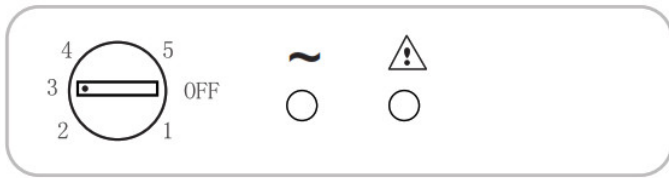

Fig. 1
- The temperature adjustment of both compartments is affected by rotating the thermostat knob (Fig. 1). Select the desired position: